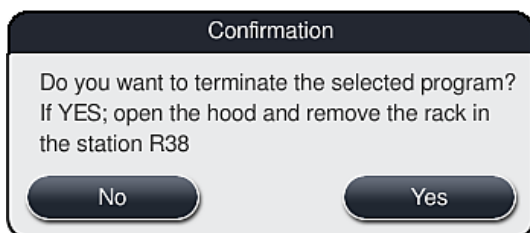

Fig. 90
5. In the following message (→ "Fig. 90"), confirm the program termination with the "Yes" button or return to the process status display with "No".
The information in the message (→ "Fig. 90") absolutely must be adhered to.